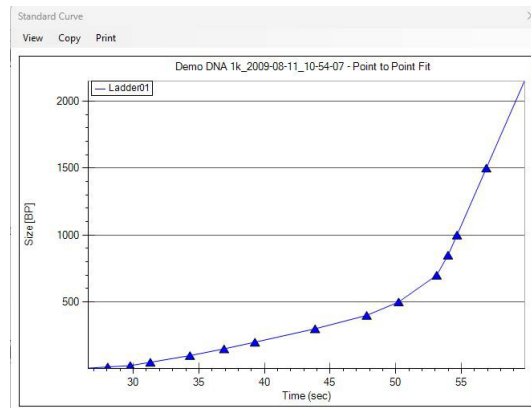

Figure 4. Standard Curve Window - DNA
- 5 The ladder is analyzed (see Ladder Analysis on page 282) and a standard curve of migration time versus DNA size is plotted from the DNA ladder by interpolation between the individual DNA fragment size/migration points. The standard curve derived from the data of the ladder well should resemble Figure 4.